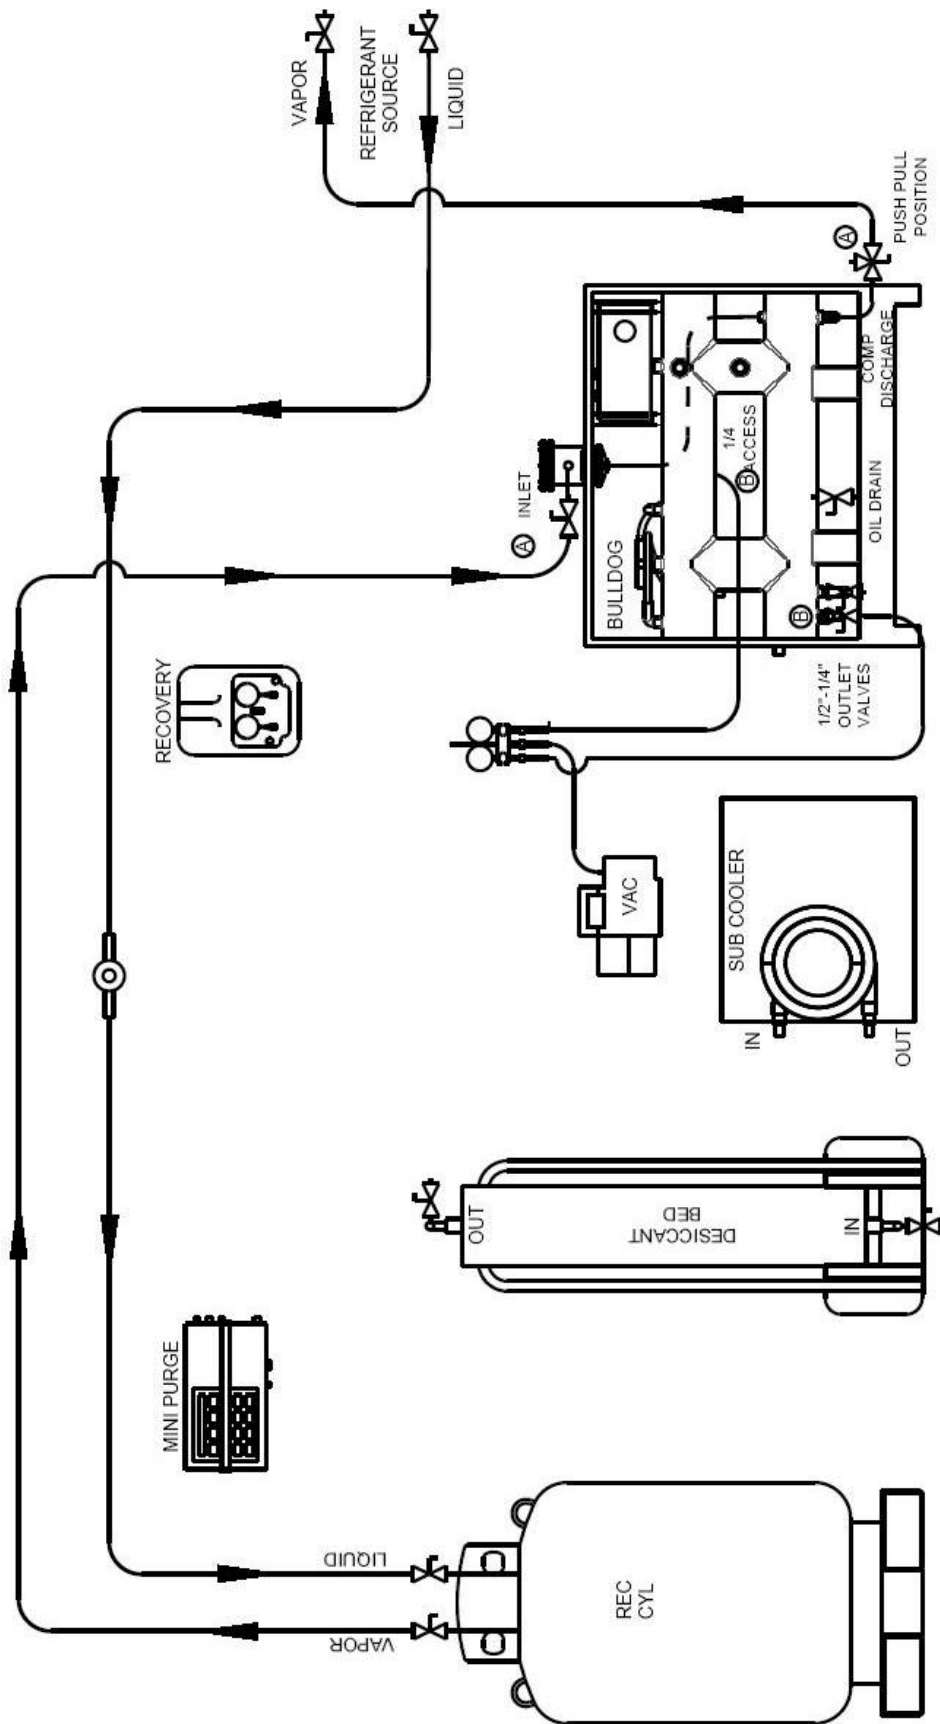

FIGURE 1: PUSH PULL
3. Connect high pressure refrigerant hoses, as shown in (Figure 1) on page 8. At this time, connect safety float cable from BullDog to recovery tank or use a suitable scale. If a scale is to be used instead of float safety cutout, the 80% full bypass switch will need to be set to the On position for BullDog to run.
4. Open isolation valves on BullDog and Hoses (Figure 1) (A). And turn compressor discharge 3-way valve to Push Pull Position.
5. Connect vacuum pump to 1/4" access fittings located on Outlet side & Compressor Suction (Figure 1) (B) on page 8. Pull to 29" Hg. Disconnect Vacuum Pump after 29" Hg is reached!